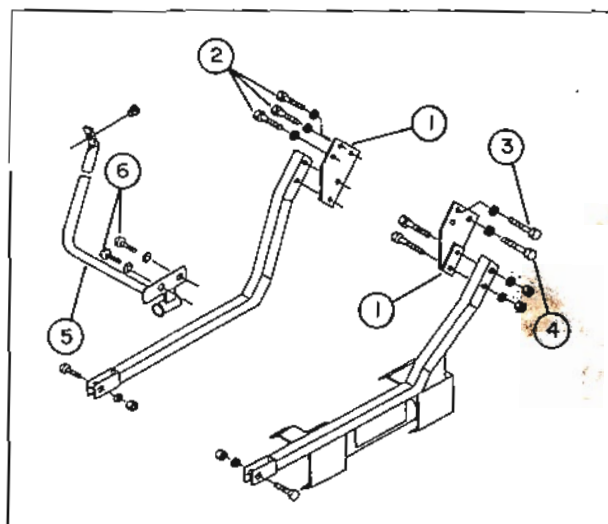

FIGURE 4
- **B7100:** Use brackets with weldments (fig.4, item 1). Attach right hand bracket between welded channel and tractor foot board on tractor frame, placing weldment down and towards the outside using three 10mm x 35mm bolts (fig.4, item 2), and lockwashers. Attach left hand bracket in front of foot board on tractor frame under the clutch intermediate rod, placing weldment down and toward the outside using one 10mm x 35mm bolt (fig.4, item 3), one 10mm x 25mm bolt (fig.4, item 4) and 10mm lockwashers (25mm long bolt must be inserted in second from top hole of bracket before installation). - Attach rotation support (fig.4, item 5) to welded channel on right hand side of tractor frame using two 10mm x 40mm bolts (fig.4, item 6), and 10mm lockwashers. Tighten securely.